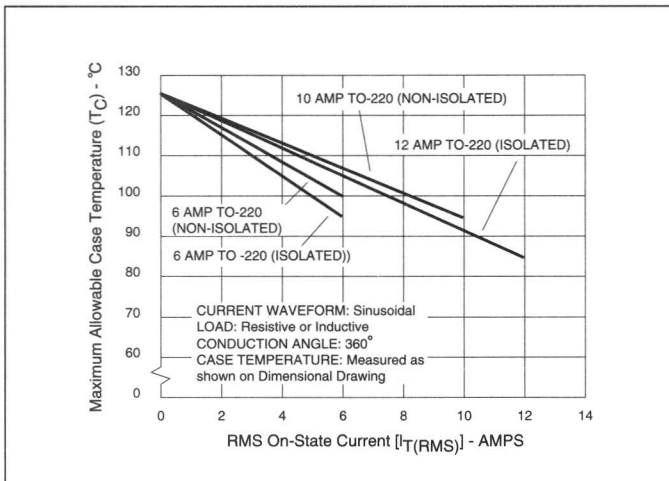
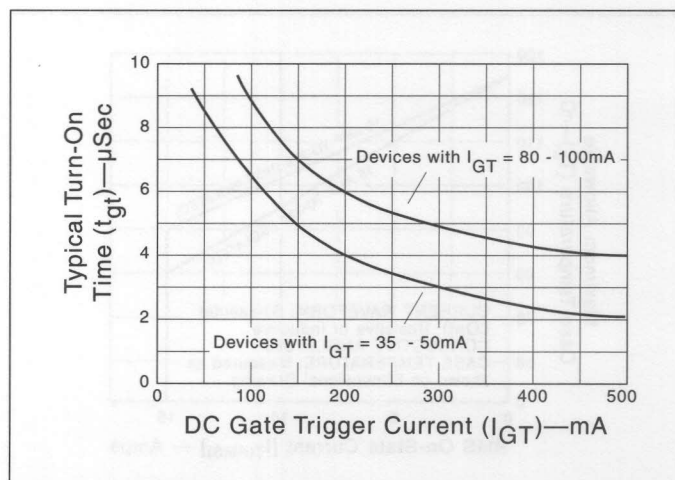

Figure 4.1 Maximum Allowable Case Temperature vs On-State Current (6-12 Amp Devices)
Figure 4.12 Turn-On Time vs Gate Trigger Current (Typical)
- See Figures 4.1 through 4.4 for current rating at specific operating temperature.
- See Figure 4.12 for t_{gt} vs I_{GT} .
- Initial on-state current = 400 mA(DC) for 15-40A devices and 100mA for 6-12 Amp devices.
- See Figures 4.1 through 4.4 for maximum allowable case temperature at maximum rated current.